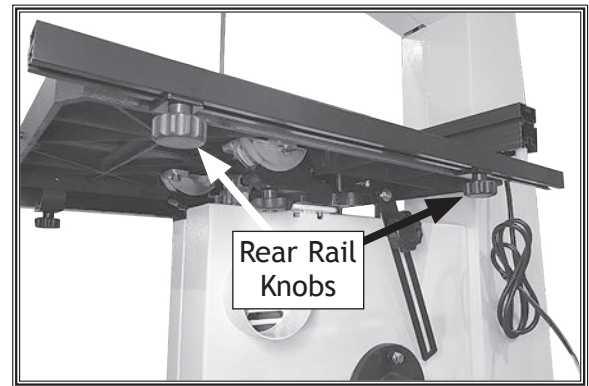

Figure 10. Rear rail installed.
15. Position rear rail even with front rail, then tighten knobs (see Figure 10).